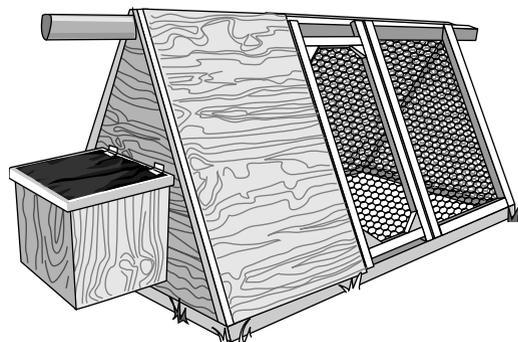

Figure 2-5:
- ✔ **Hoops:** A hoop coop (see Figure 2-5) is typically rounded and tunnel-shaped. Flexible piping (like PVC) often makes up the frame, with some kind of bendable fencing material covering it. A simple tarp or solid fabric can be draped over a portion of the hoop to make a decent shelter. Many chicken owners with larger coops keep a hoop handy to use as temporary housing during the main coop's clean-out day. A small hoop coop can be very lightweight and may need to be anchored to the ground to keep it from tipping over in high winds.